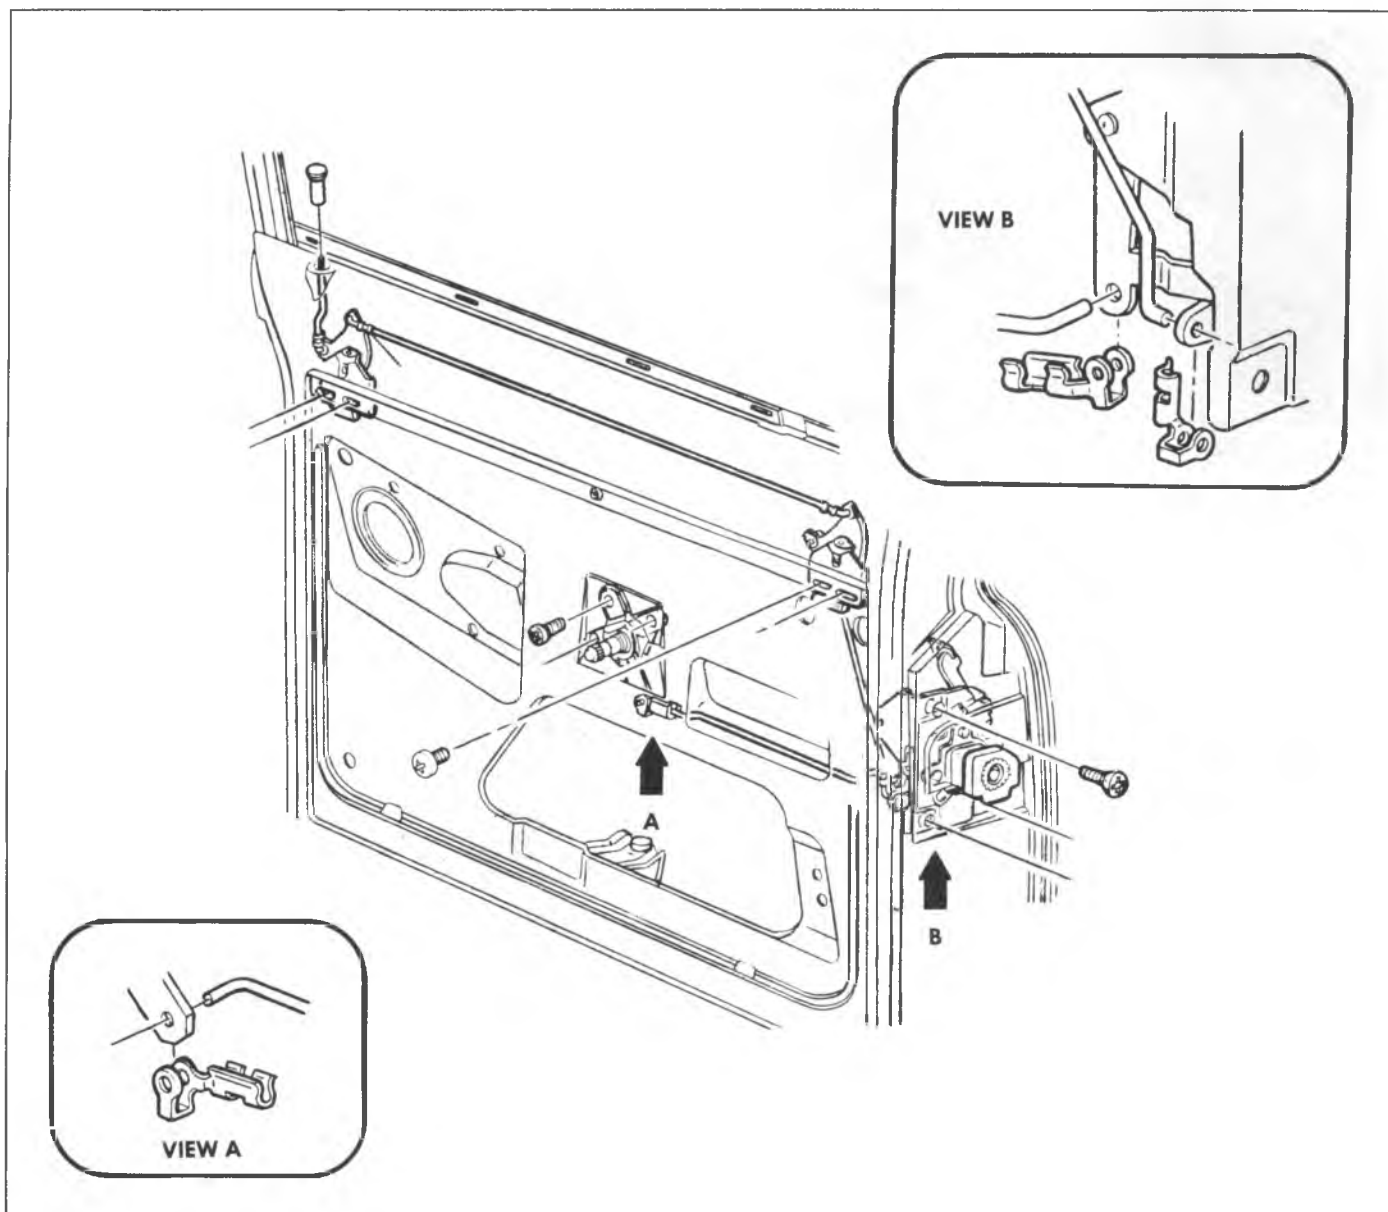

Fig. 39—Remote Control and Side Rear Door Lock.
REAR SIDE DOOR—PANEL AND SUBURBAN LOCK**Removal and Installation (Fig. 39)**
4. Remove two (2) spring clips from the control rods. (Refer to View "B", fig. 39.)